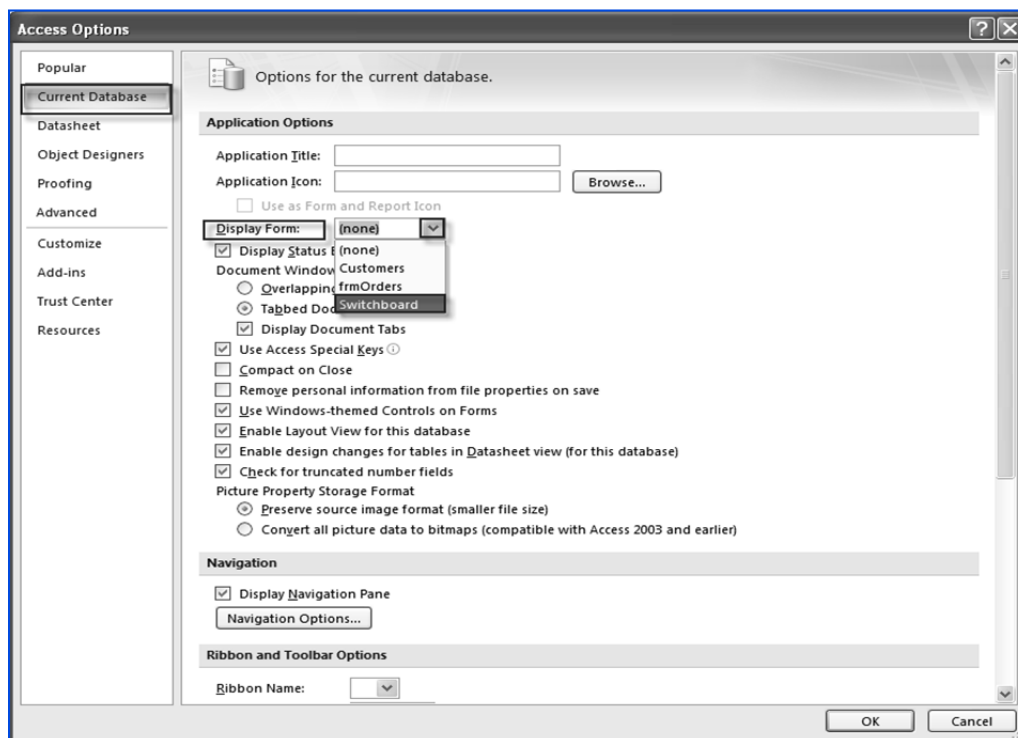

Fig. 4.3.30. Select Switchboard for Display Form option
4. Go to *Application Options*, click  in the *Display form* and select *Switchboard* from the list that appears, as shown in Fig. 4.3.30.